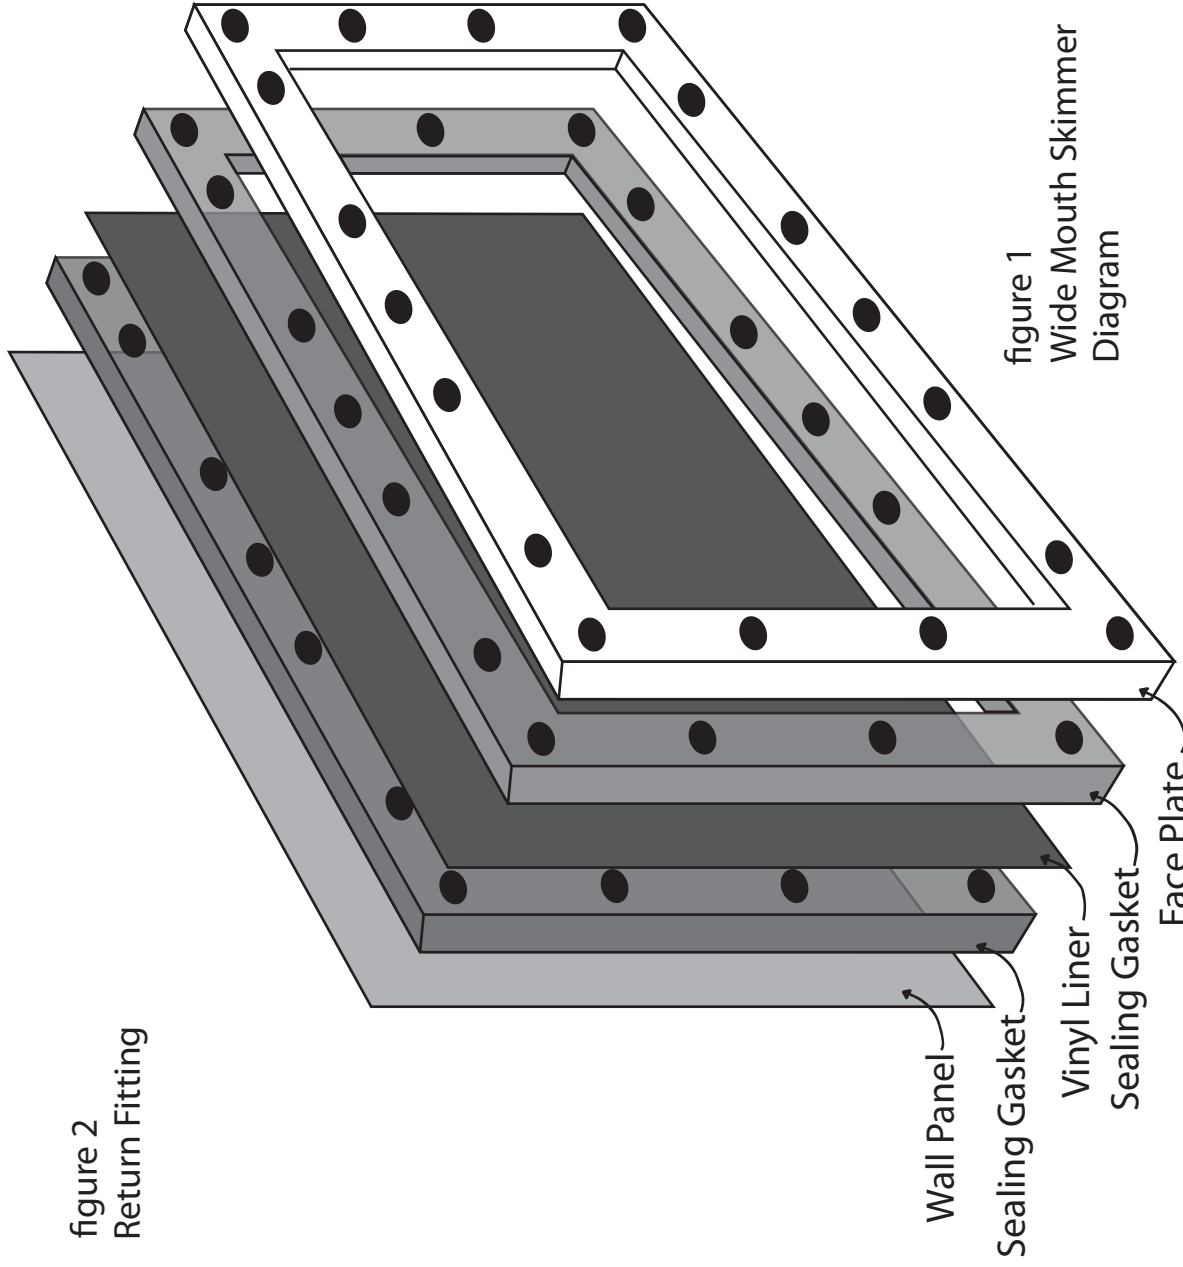

figure 1
3. Align skimmer face and sealing gasket with drilled holes fasten to exterior wall panel with the (4) 5/8" pan head screws provided.
4. Align second sealing gasket and face plate and fasten tightly to skimmer face on the interior wall panel with the (18) 1" screws provided (pierce liner through face plate holes one at a time prior to inserting each screw). (Use a large Phillips head screwdriver to drive these heavy duty screws. Screw securely through: 1. Face Plate; 2. Sealing Gasket; 3. Vinyl Liner; 4. Sealing Gasket; 5. Wall Panel; 6. Into Skimmer Face. (see figure 1)